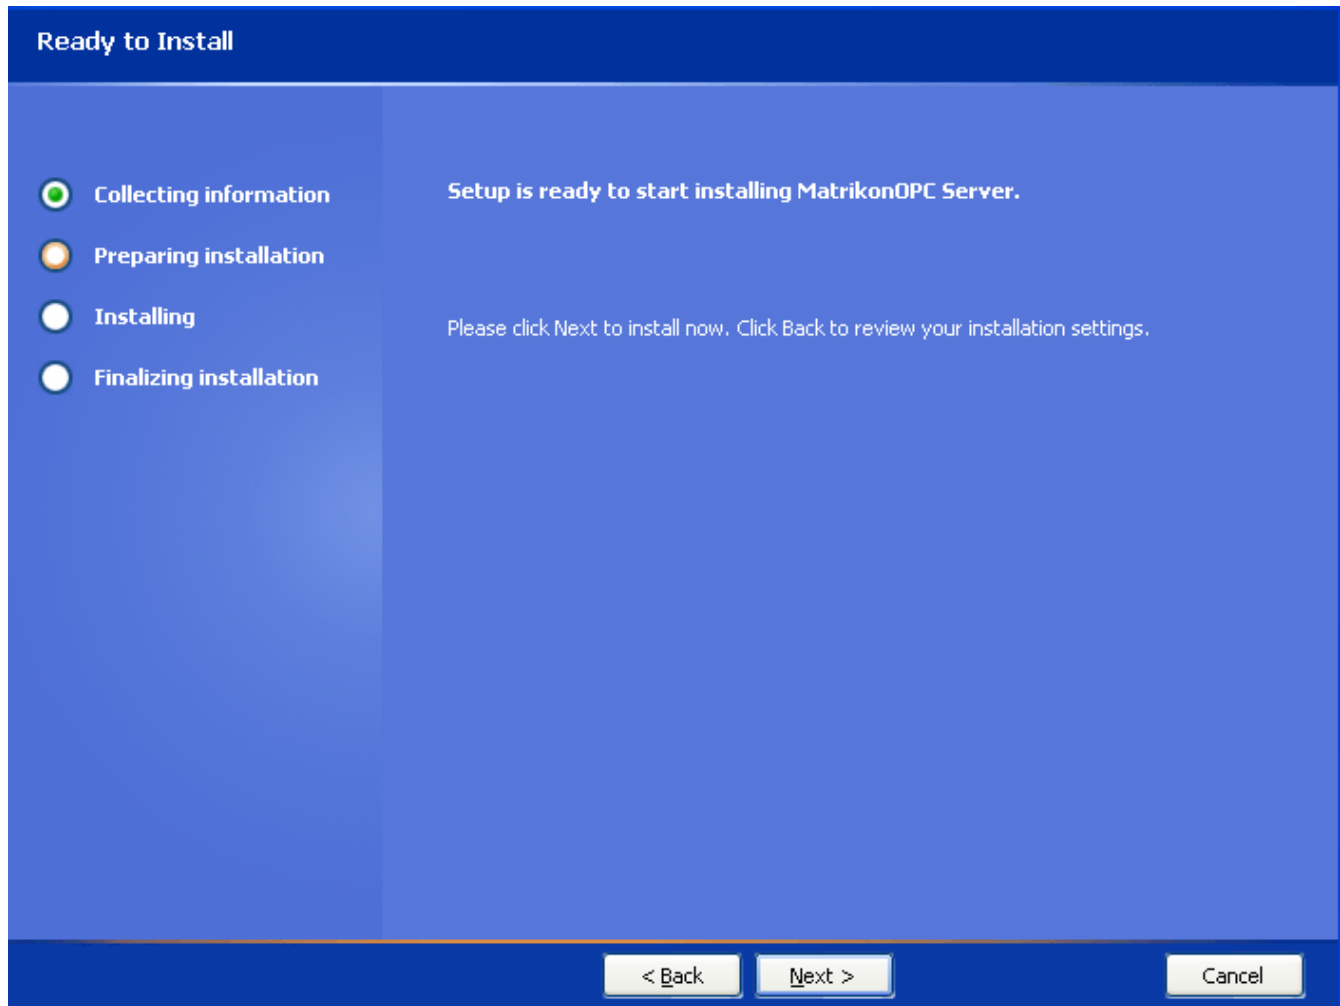

Figure 74 - Ready to Install Screen
18. Click on the **Next** button. The **Ready to Install** screen (Figure 74) appears.